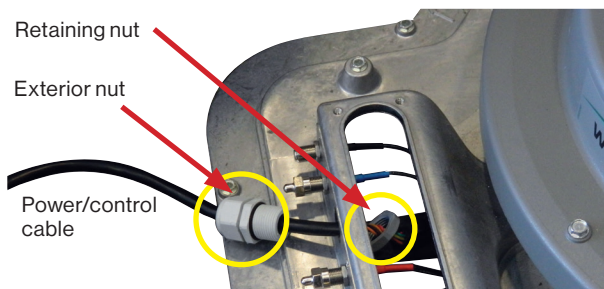

FIGURE 12. Unclip the power coupler
2. Unclip the power coupler from the internal power cable. Unthread and remove the power/control cable retraining nut located inside the turret. See figures 12 and 13.